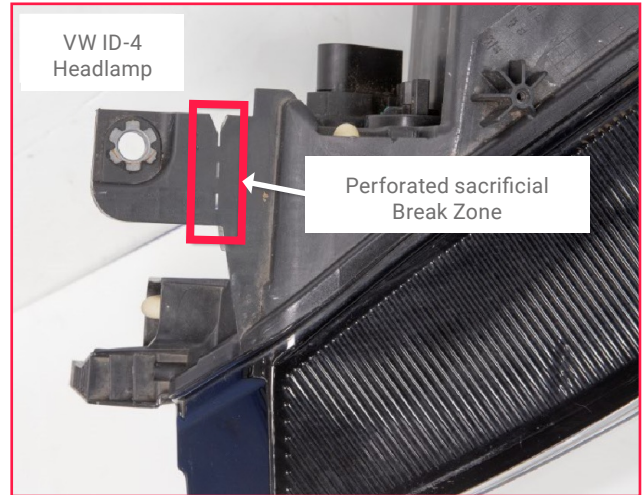

Figure 1
- **Refer to figure 1** for an example of a headlamp mounting bracket with perforated sacrificial break zone.